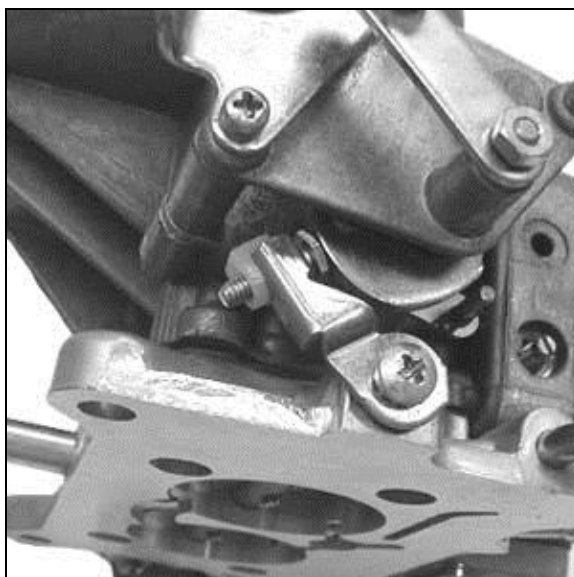

Figure 8
1. If the fast idle RPM is too low or too high for your preferences, SHUT DOWN THE ENGINE! Advance the throttle to wide-open, exposing the fast idle set screw below the choke housing (See Figure 8).